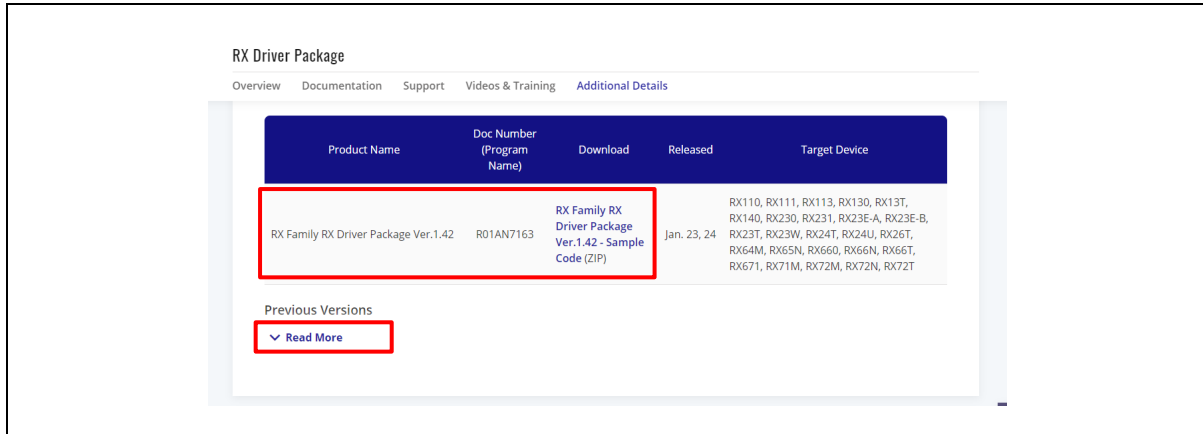

Figure 4-18 Download page
4.6	Replace Figure 4-18 and update FIT version